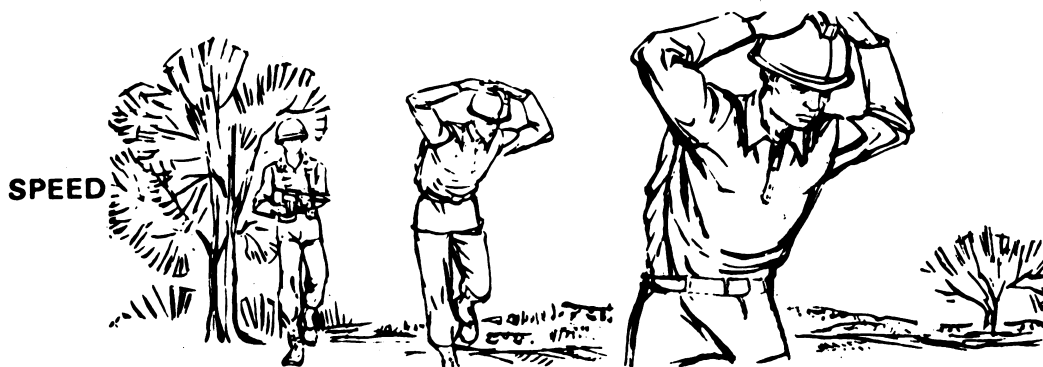

Figure 4
4. SPEED (fig. 4) prisoners to the rear. The information they have does no good until obtained by an interrogator and processed.